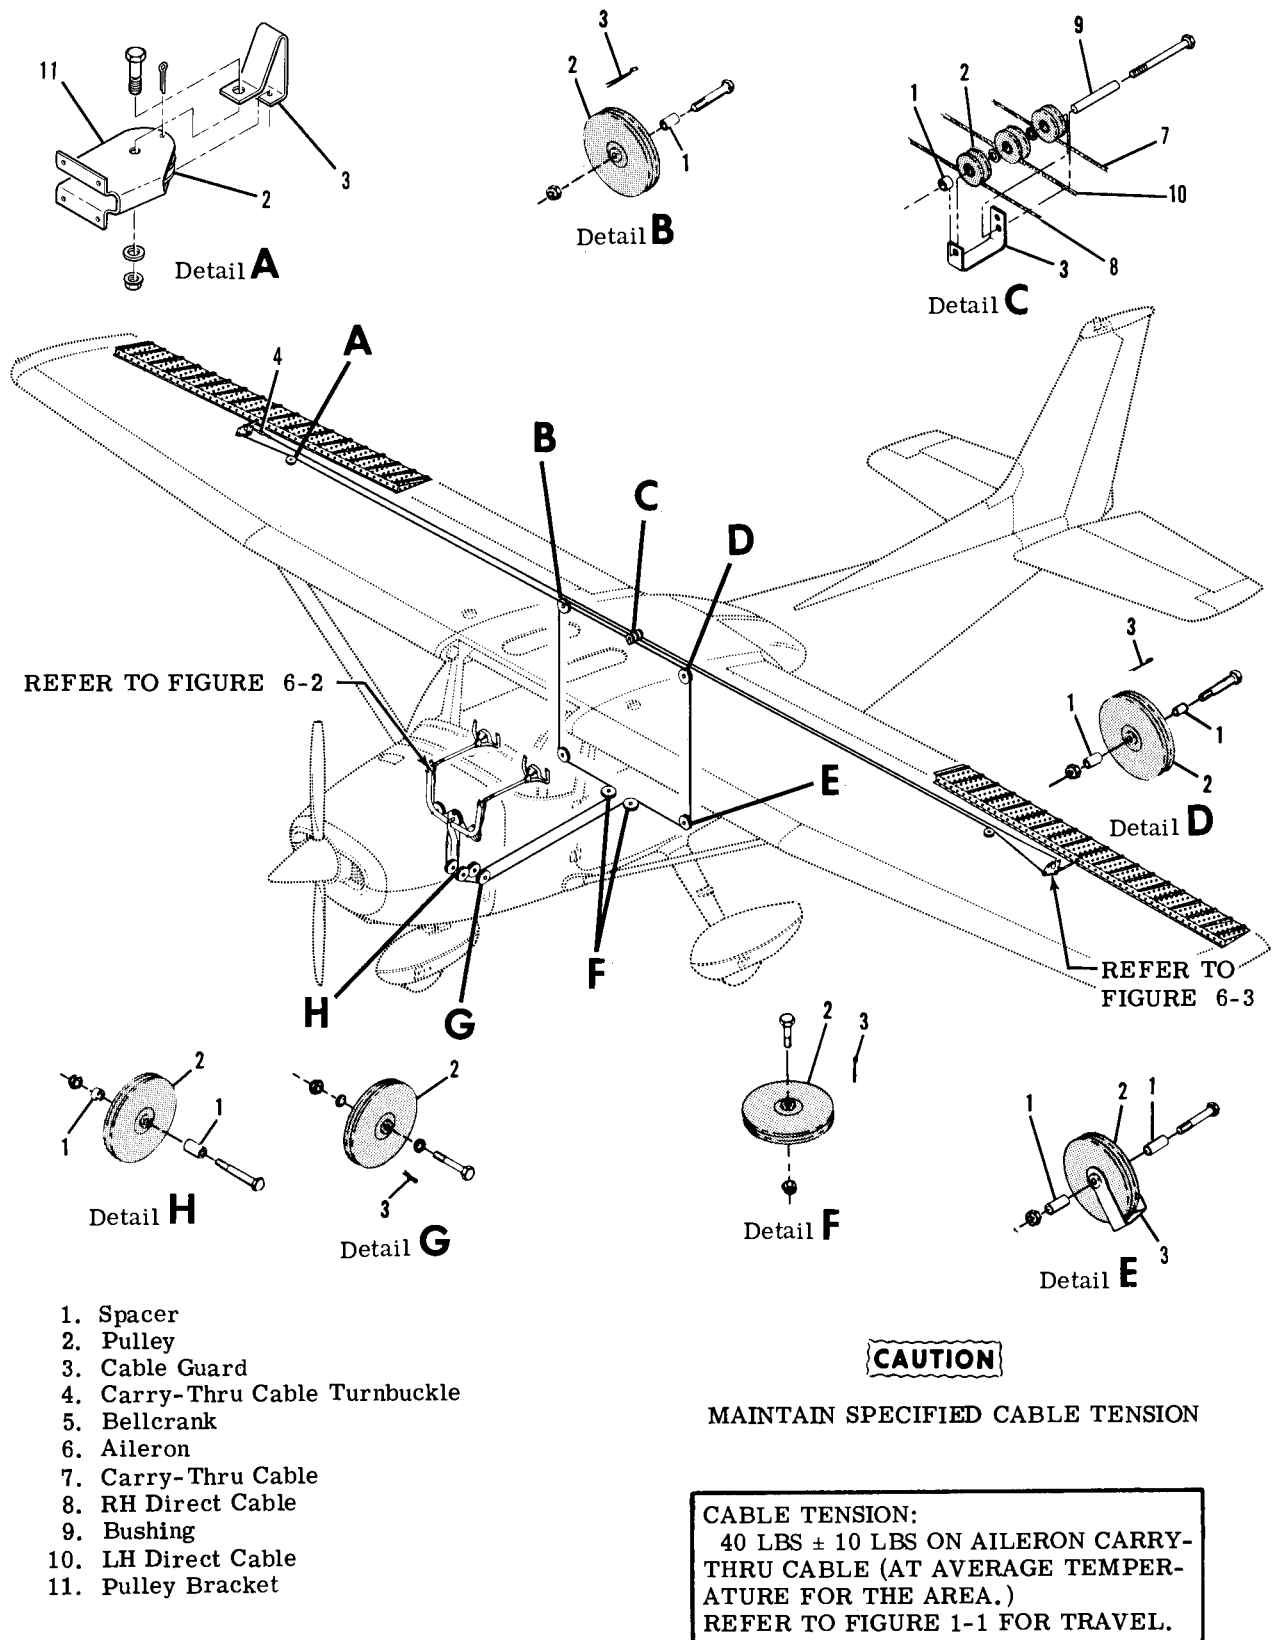

Figure 6-1. Aileron Control System
6-1. AILERON CONTROL SYSTEM. (Refer to figure 6-1.)
- a. Place bushing (5) and stop-bushing (15) in bellcrank (7) and position bellcrank in wing.
- b. Install brass washers (11) between lower end of bellcrank and wing channel (9) to shim out excess clearance.
- c. Install bellcrank pivot bolt (4), washers and nut.
- d. Position bellcrank stop-bushing and install attaching bolt (16), washers and nut.
- f. Rig aileron system in accordance with applicable paragraph in this section, safety turnbuckle (17) and reinstall all items removed for access.
**6-12. CABLES AND PULLEYS.** (Refer to figure 6-1.)